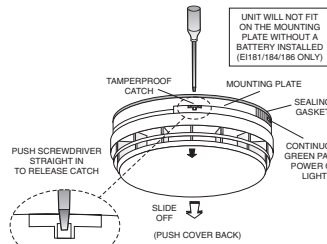

Figure 1a
1. Remove the mounting plate from the Smoke Heat Alarm by releasing the tamper-proof catch with a small screwdriver as shown in figure 1a and sliding the alarm from the plate.